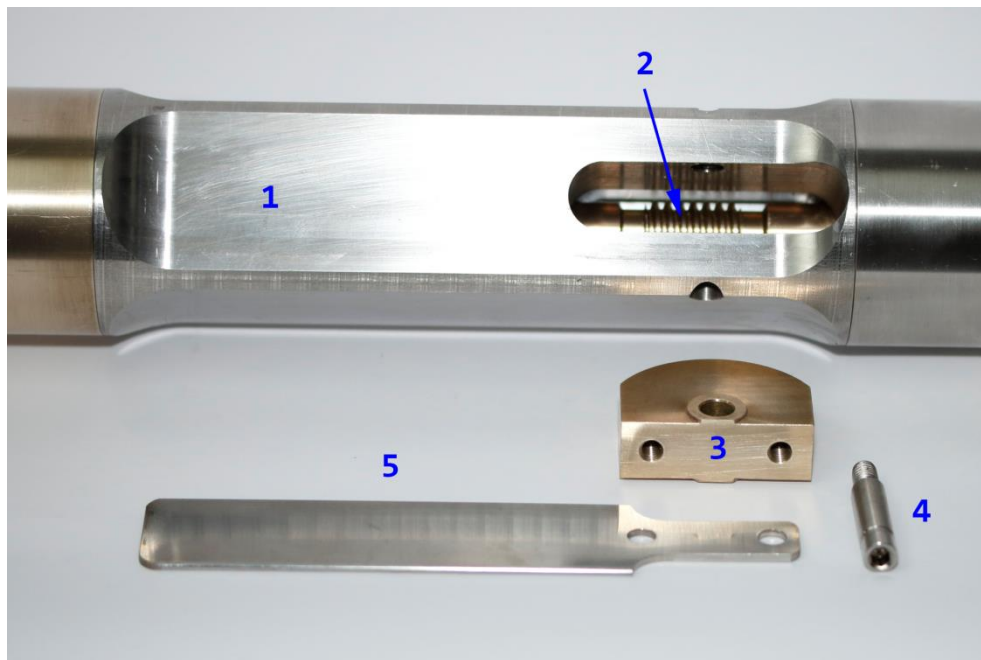

Fig. 4 The clamping mechanism
The clamping mechanism (Fig. 4) consists of the clamping module body (1), a rotating worm shaft (2), and a worm gear (3). The fitting screw (4) fixes the worm gear to the clamping module body.